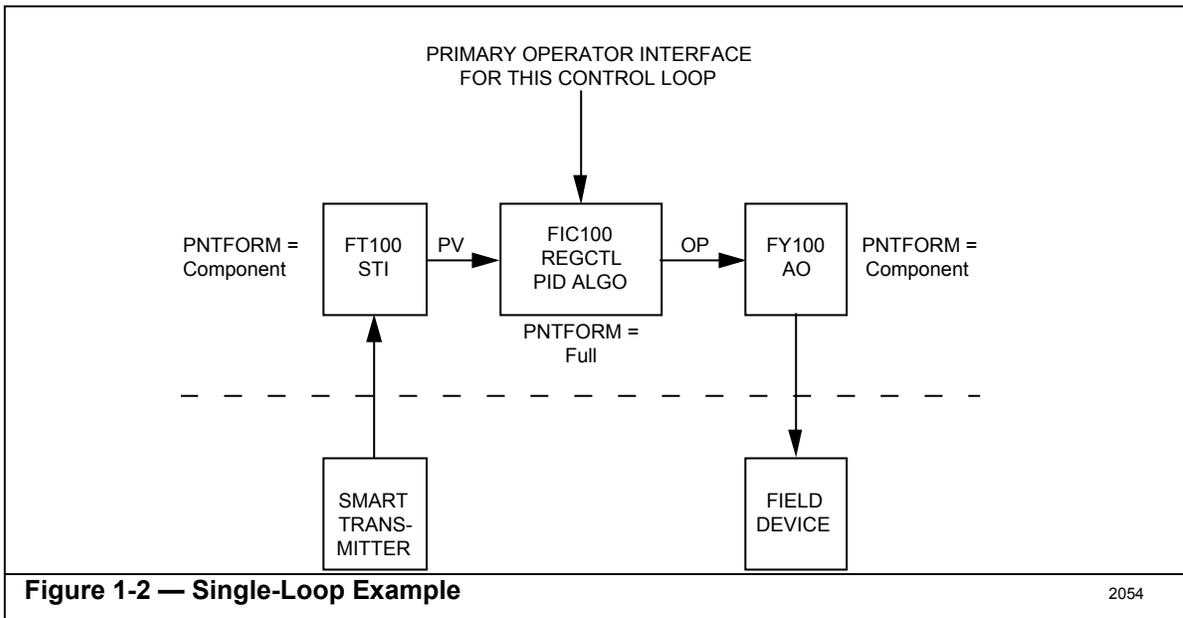

Figure 1-2 — Single-Loop Example
In Figure 1-2, a single-loop PID controller has the PV of a Smart Transmitter Interface point (FT100) connected to the PV of a RegCtl point (FIC100) that has been configured for a PID algorithm. The output (OP) of the RegCtl point is applied to an analog output (AO) point (FY100). In this case, FIC100 is the primary operator interface and is configured as a "Full" point. FT100 and FY100 are parts (components) of FIC100, and could be configured as "Component" points.